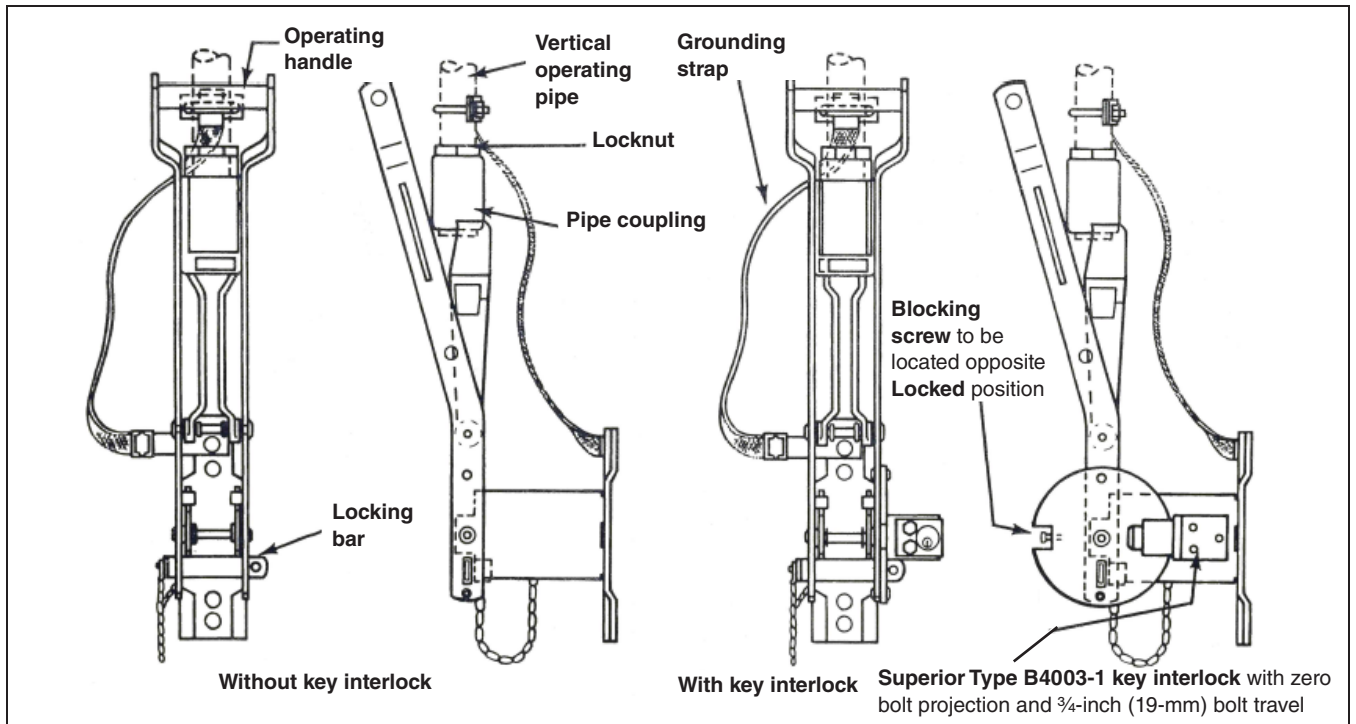

Figure 11. The pipe-coupled handle.
STEP 3. Mount the operating handle as shown on the erection drawing. At the same time, use one of the operating handle mounting bolts to attach one end of the grounding strap (the end with the grounding connector attached) to the handle mounting plate. See Figure 11 on page 23●. Use ⅝-inch mounting hardware (not furnished).
STEP 7. Install the lowest vertical pipe section by threading one end of the pipe into the coupling on the operating handle. Approximately ¼-inch (6.4 mm) of thread should extend through the coupling. See Figure 11 on page 23. Tighten the locknut.
With a key interlock. A Superior Key Interlock, if supplied with the interrupter switch, will be mounted on the operating handle (see Figure 11 on page 23). One of the two slots in the operating handle will be blocked to provide either a locked-open or a locked-closed arrangement.